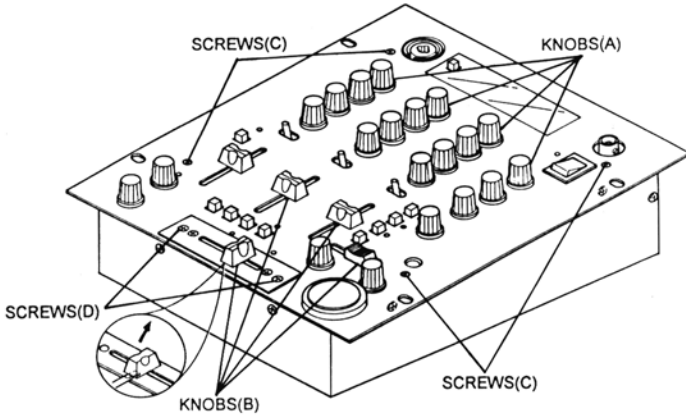

Fig. 1
- (a) Remove 20 knobs(A).(Fig. 1)
- (b) Remove 5 knobs(B).(Fig. 1)
- (c) Remove 4 screws(C).(Fig. 1)
- (d) Remove 2 screws(D).(Fig. 1)